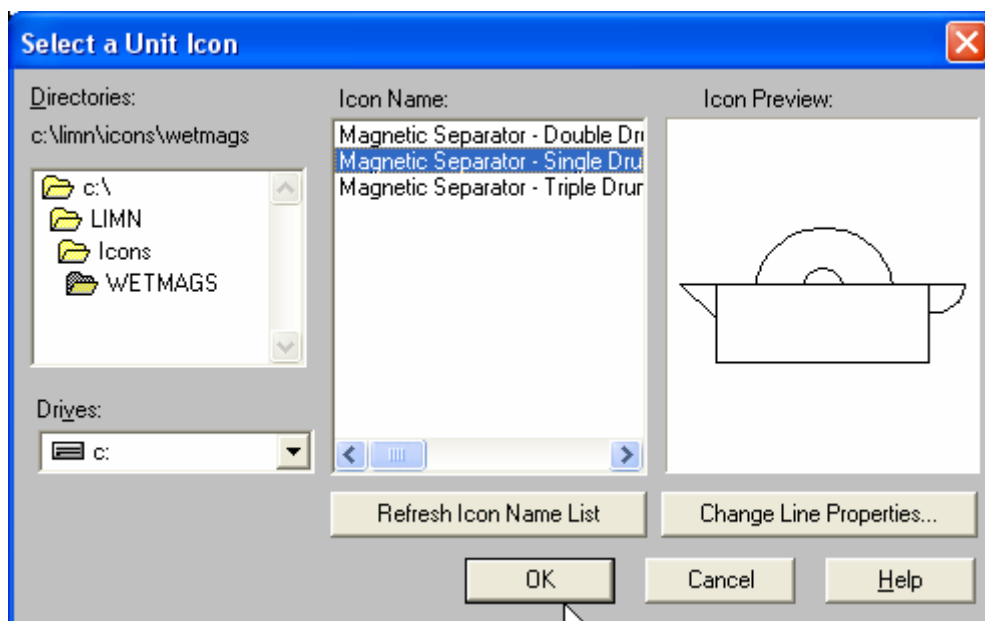

Figure 30: Wetmags Icon List
- 8.5 Rename the unit to Mag Roll. Label the product streams non magnetics and magnetics. Add the labels to the unit and streams, see figure 30 below.